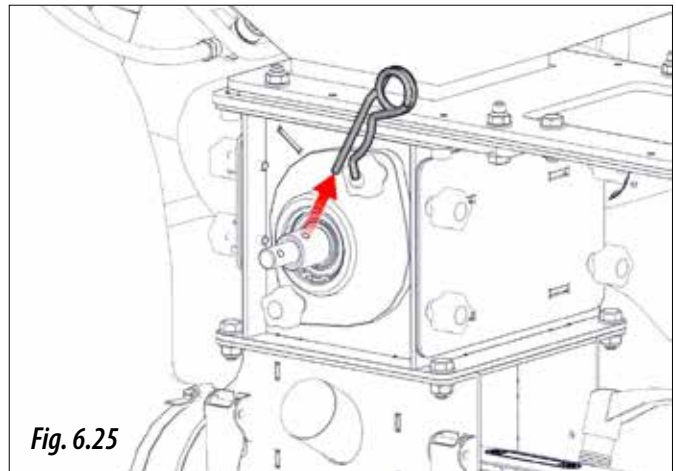

Fig. 6.25
- 1- Remove the pin "R" (Fig. 6.25).